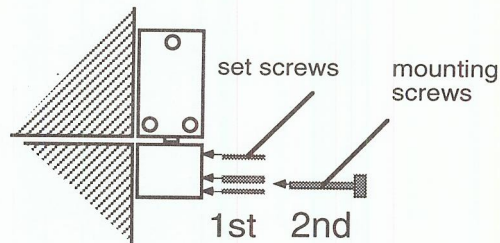

figure 3. encoder box mounting
- Adjust encoder box set screws before tightening the mounting screws. The encoder box must be centered relative to the spar. See Figure 3. Ensure that the encoder box is properly positioned and secured until installation is complete.